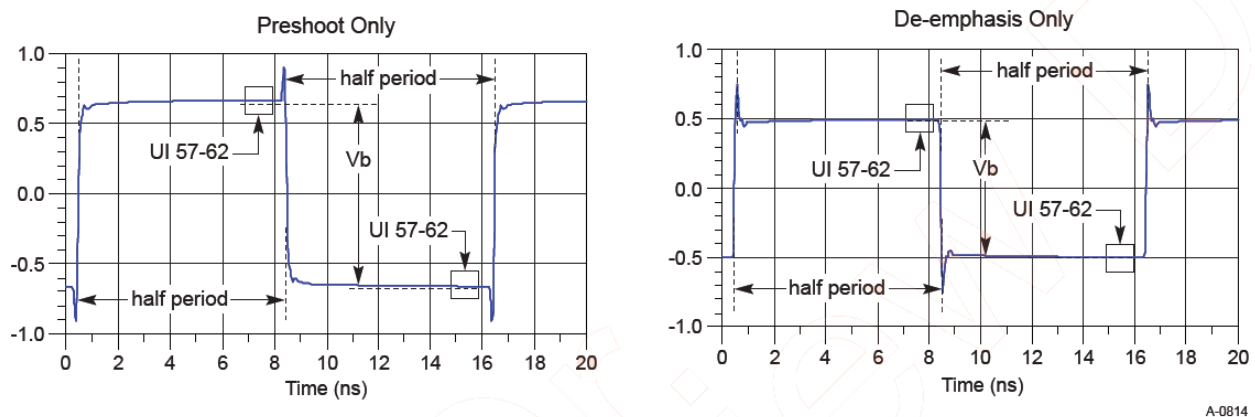

Figure 219 Waveform measurement points for preshoot and de-emphasis
8.0 GT/s, 16.0 GT/s and 32.0 GT/s PCIe signaling must support the full range of presets given in Table 8-1 (PCIe Base Specification Revision 5.0). Presets are defined in terms of ratios, relating the pre-cursor and post-cursor equalization voltages. The pre-cursor (V_c) is referred to as pre-shoot, while the post-cursor (V_b) is referred to as de-emphasis. This convention permits the specification to retain the existing 2.5 GT/s and 5.0 GT/s definitions for Tx equalization, where only de-emphasis is defined, and it allows preshoot and de-emphasis to be defined such that each is independent of the other. The tolerances in Table 8-1 (PCIe Base Specification Revision 5) also apply to 2.5 and 5.0 GT/s de-emphasis. The maximum swing, V_d , is also shown to illustrate that, when both c_{+1} and c_{-1} are nonzero, the swing of V_a does not reach the maximum as defined by V_d . The high frequency nature of PCIe signaling makes measurement of single UI pulse heights impractical. Consequently all amplitude measurements are made with low frequency waveforms as shown in Figure 219.